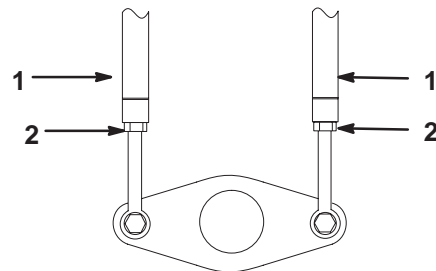

Figure 37
3. Loosen the jam nuts on the traction rods, under the control panel (Fig. 37).